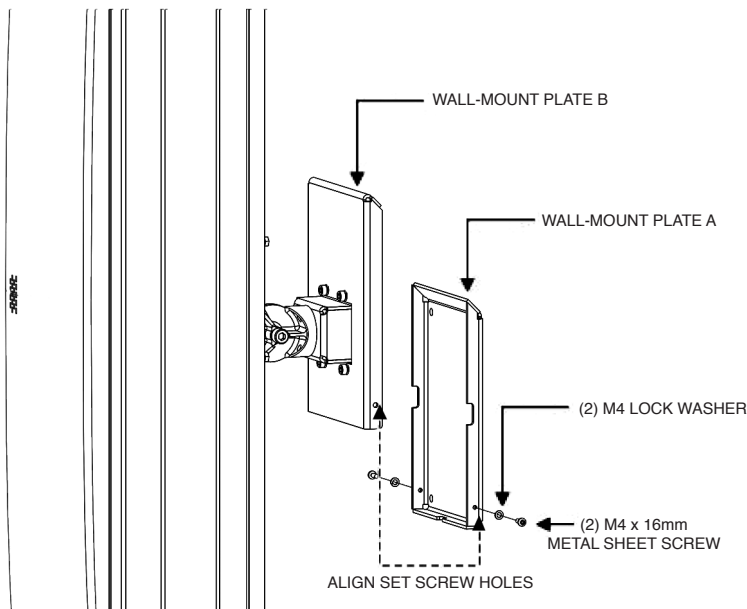

Figure 7, Hanging Loudspeaker
- 9. Align the screw holes on the sides of Wall-Mount Plate A with those on Wall-Mount Plate B and secure them using two M4 sheet metal screws with lock washers. Tighten each screw to 18 in-lbs. (See **Figure 7.**)